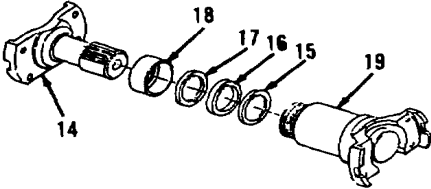

Figure 10-3.
6. Install retainer (18), washer (17), new seal (16) and washer (15) onto yoke (19, Figure 10-3).